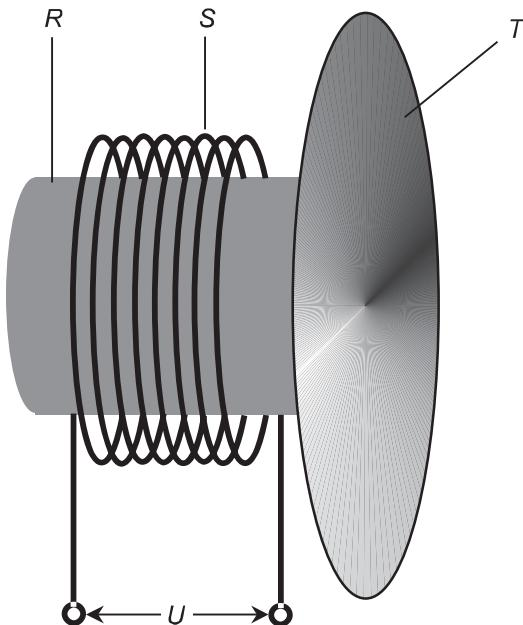

Fig. Exam-6. Illustration for Final Exam Questions 61 through 64.
61. Figure Exam-6 is a simplified functional drawing of a dynamic transducer. The component labeled *R* is
62. In Fig. Exam-6, assuming the transducer is properly connected and operated, the component labeled *S* carries
63. What function does the component labeled *T* in Fig. Exam-6 perform?
64. In Fig. Exam-6, assuming the transducer is properly connected and operated, what appears between the terminals marked *U*?